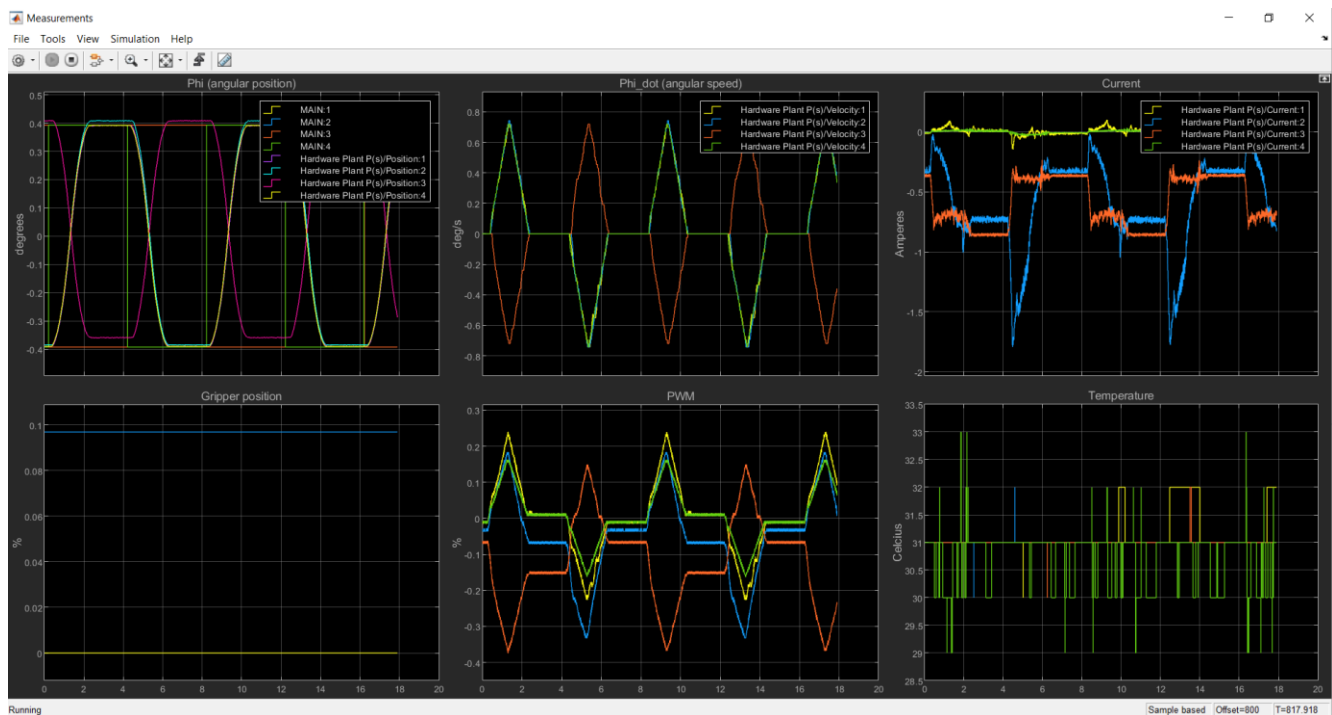

Figure 2: Sample results showing the base and shoulder joints following commanded setpoints
13. With the Base, Shoulder, Elbow and Wrist all at 0, toggle the four switches away from 0 towards the square waveform. The QArm should move between 2 sample positions. Using the **Measurements** scope verify that each joint follows the commanded setpoint. Sample results are shown in Figure 2.